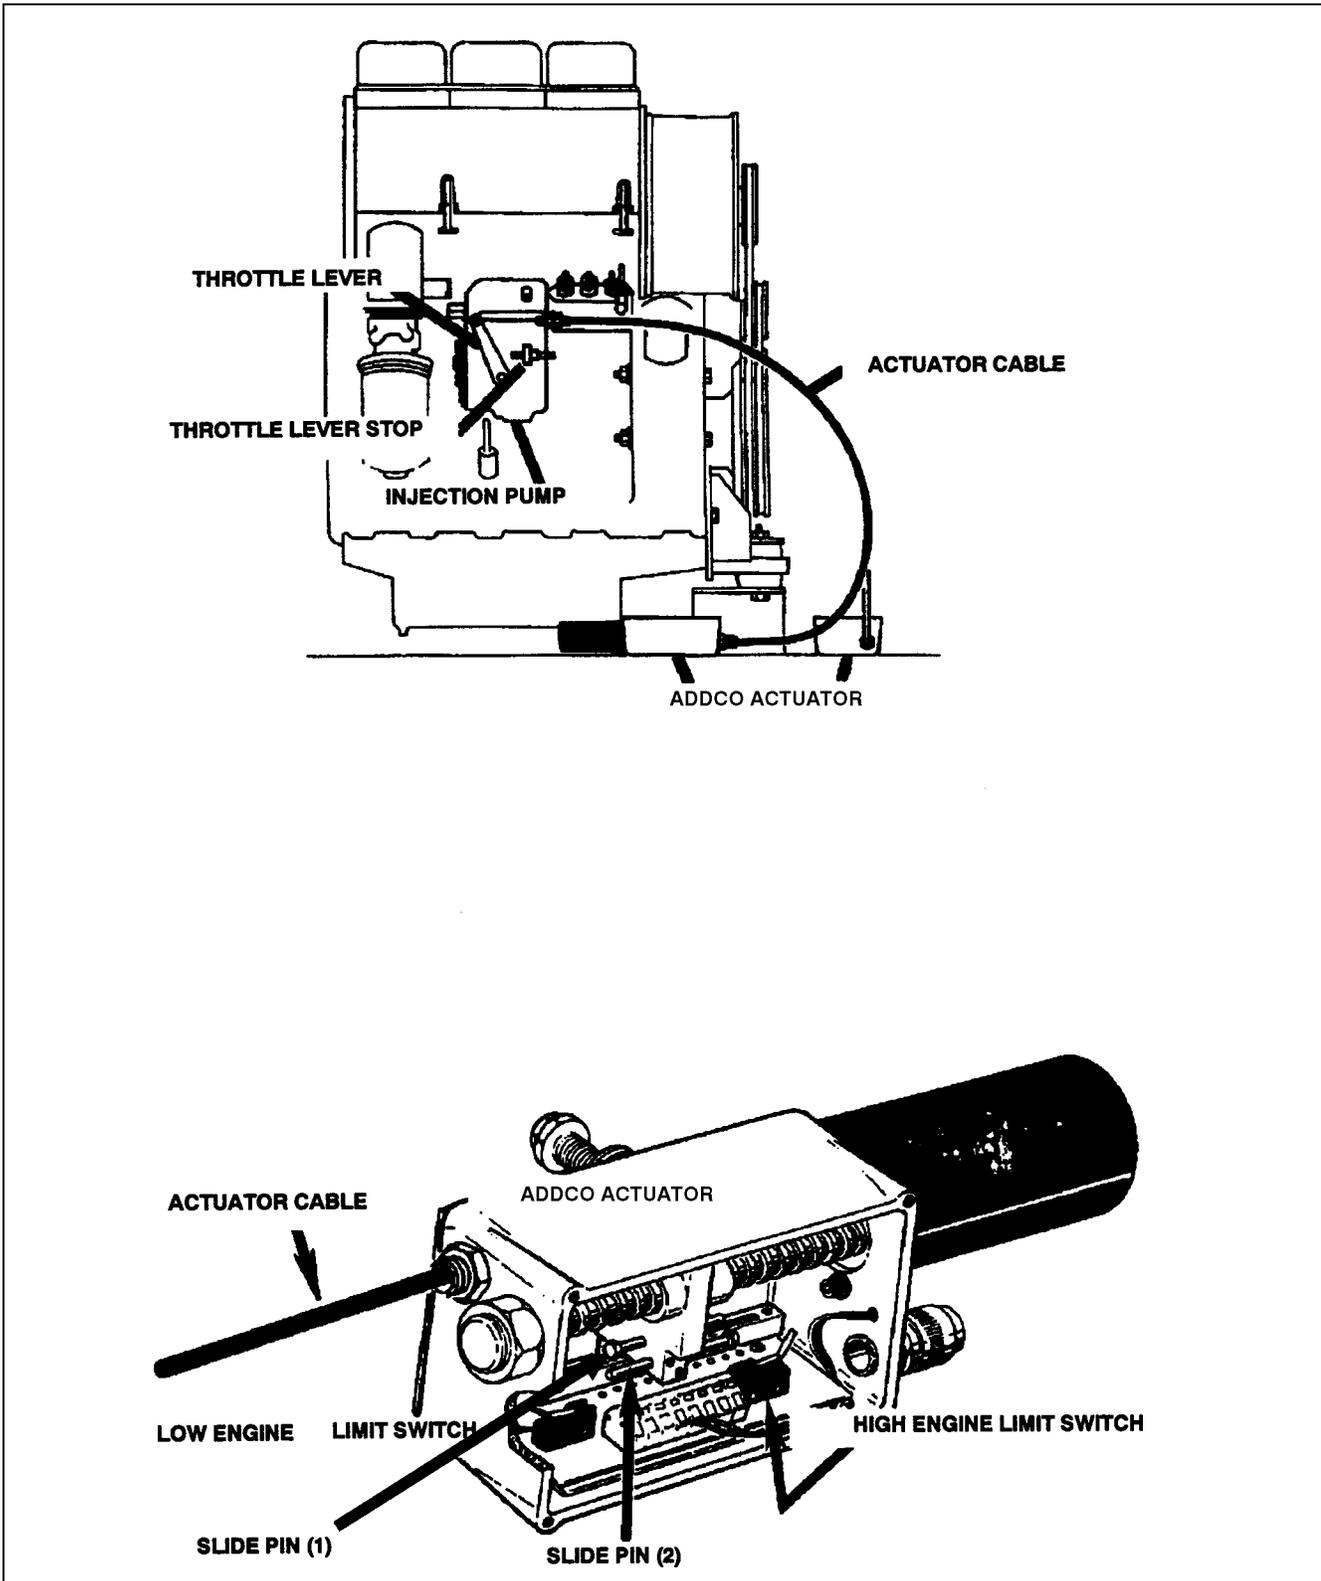

Figure 2-10. Addco Actuator Adjustments, F3L912.
2.19 THROTTLE CHECKS AND ADJUSTMENTS - DEUTZ F3L912 ENGINE. (SEE FIGURE 2-10.)